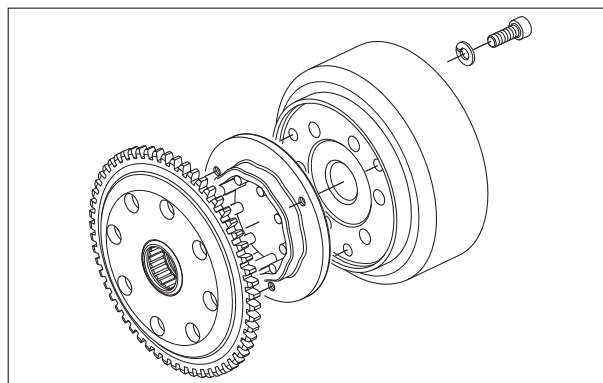

Fig. 3.132
- If required, separate the gear complete starter clutch and remove the one way clutch from rotor assembly by removing the hexagonal socket head cap screw (M6x16 - 3 nos.) along with punched washers. (Fig. 3.132)